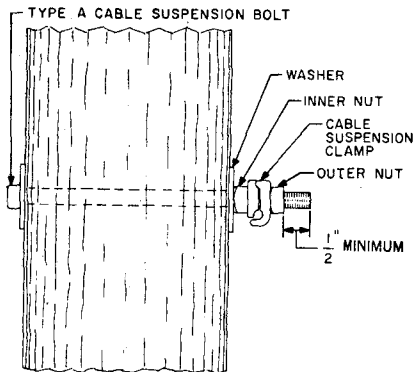

Fig. 2 — Type A Cable Suspension Bolt Mounted on Pole
3.01 At least 1/2 inch of excess bolt is required to install a B Clamp Support as illustrated in Fig. 2.
(a) Back off the outer nut on the cable suspension bolt until the outer face of the nut is flush with the end of the bolt. (See Fig. 2.)